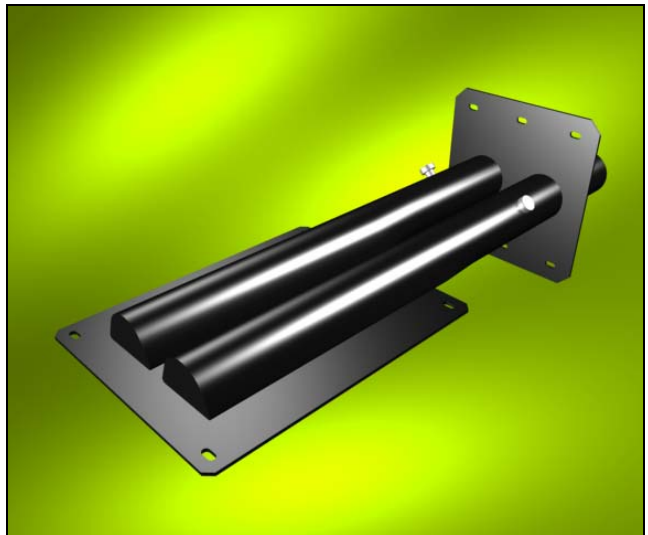

Figure 32 – UPPER MOUNTING BRACKET WITH INTEGRATED OUTLETS
- **UPPER MOUNTING BRACKET WITH INTEGRATED WALL-MOUNTED OUTLETS** (Code O-STF000): supplied complete with double external terminal (Figure 32).